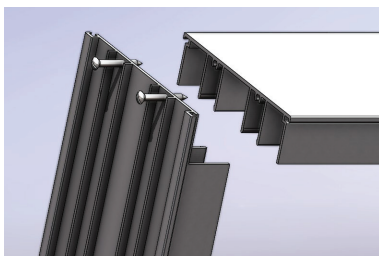

Figure 8
1. Gather the main frame header, sill and jamb (if single pocket). Trace the frame head and sill ends with sealant on jamb side of single pocket doors. It is not necessary to trace the frame ends if the unit is a double pocket door. (See Figure 8 and 9)
2. Assemble mainframe head, sill, and jamb, on a single pocket door using the supplied # 8 x 1 Phillips pan head screws at each assembly hole. (See Figure 8 and 9) This step is not required on double pocket units.